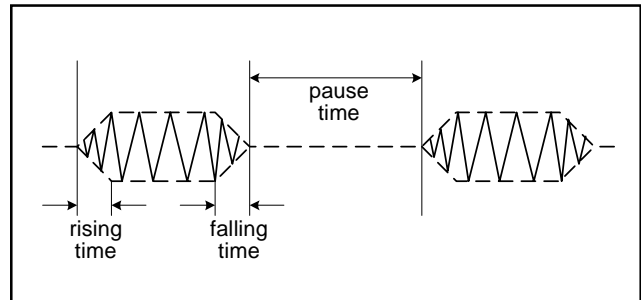

Figure 7. Teletax Signal
When a '1' appears on Teletax Ramp Start bit (RS) of Local Command 10, the teletax signal will be output from the VOUT pin on the corresponding channel with a $16\text{ ms} \pm 10\%$ rising time. This teletax signal will last until a '0' on the RS bit for the same channel. It has a falling time of $16\text{ ms} \pm 10\%$, as shown in Figure 7. Teletax signal is used to sum the telephone fee according to the calling time and tariff. The frequency of teletax signal carrier can be selected as 12 kHz or 16 kHz ($\pm 50\text{ Hz}$) by Global Command 20, while the amplitude of the teletax signal on specific channel can be programmed by Teletax Gain Setting bits (TGS[7:0]) in Local Command 3.